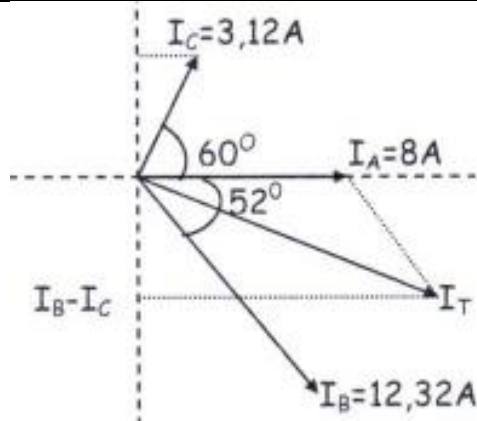

Figure 1.37
2. Consider the phasor diagram in **Figure 1.37** and calculate the values of  $Z_A$ ,  $Z_B$  and  $Z_C$  if the supply voltage is given as 120 V.